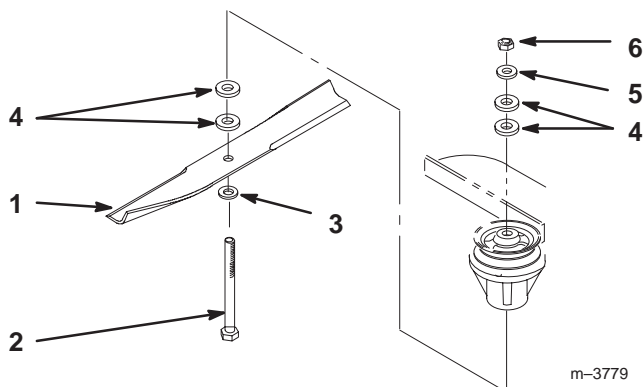

Figure 36
Hold the blade bolt with a wrench. Remove the nut, blade bolt, cone washer, blade, spacers and thin washer from the spindle (Fig. 36).
1. Place the blade onto the bolt, over cone washer. Select proper number of spacer(s) for height-of-cut and slide bolt into spindle (Fig. 36).
2. Install remaining spacer(s) and secure with thin washer and nut (Fig. 36).